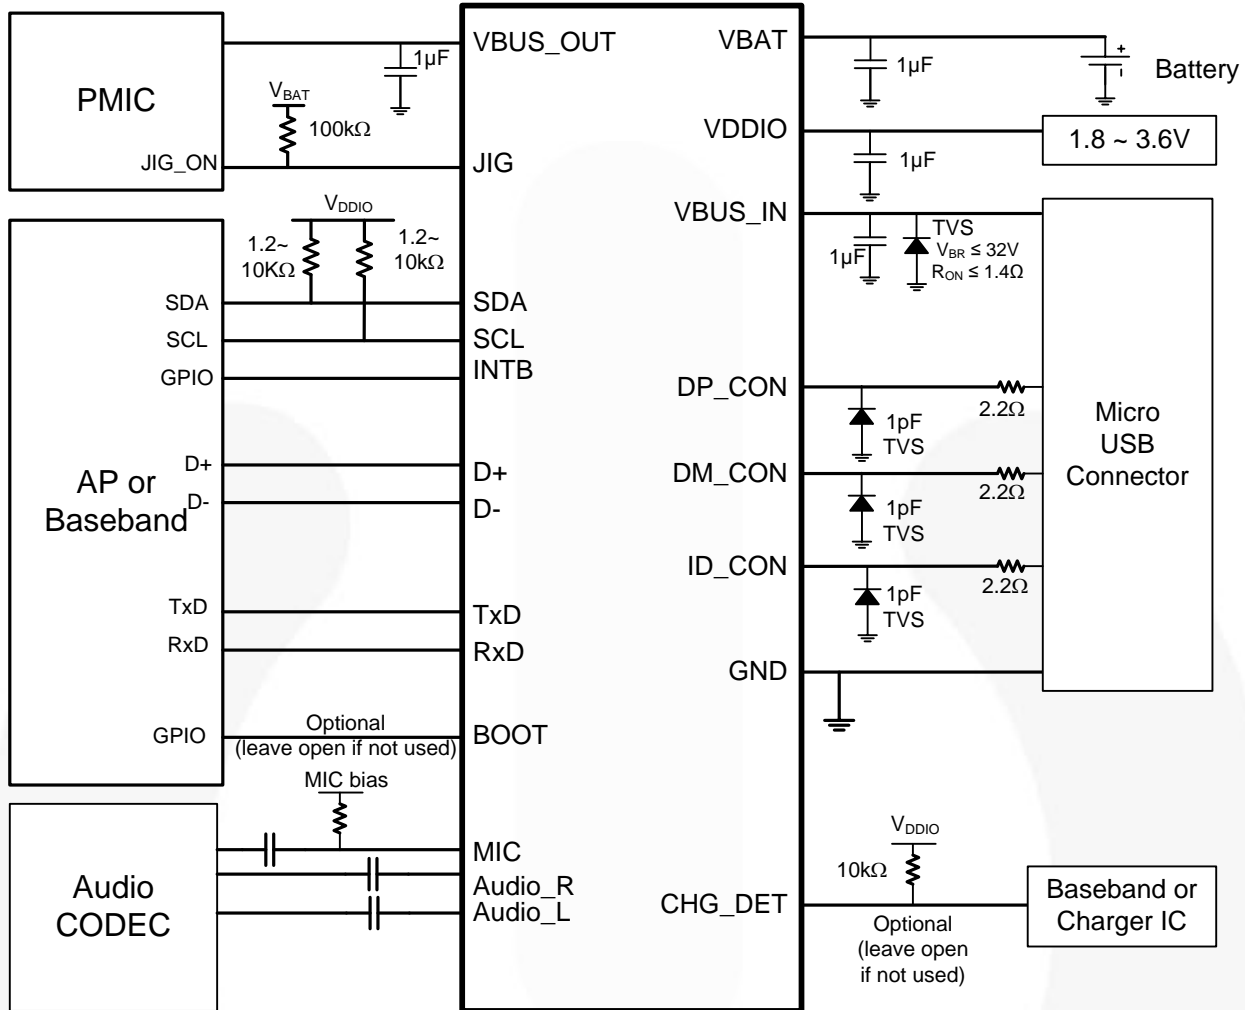

Figure 27. Reference Schematic
- Add as large a decoupling capacitor as possible ($\geq 1\mu F$) between the V_{BAT} pin and GND to shunt any power supply noise away from the FSA9280A. Also add decoupling capacitance at the PA (see the reference application schematic in Figure 27 for recommended decoupling capacitor values).
- Add 33pF shunt capacitors on any PCB nodes with the potential to collect radiated energy from the phone transmitter. At a minimum, add these 33pF capacitors to the MIC pin (see Figure 27).